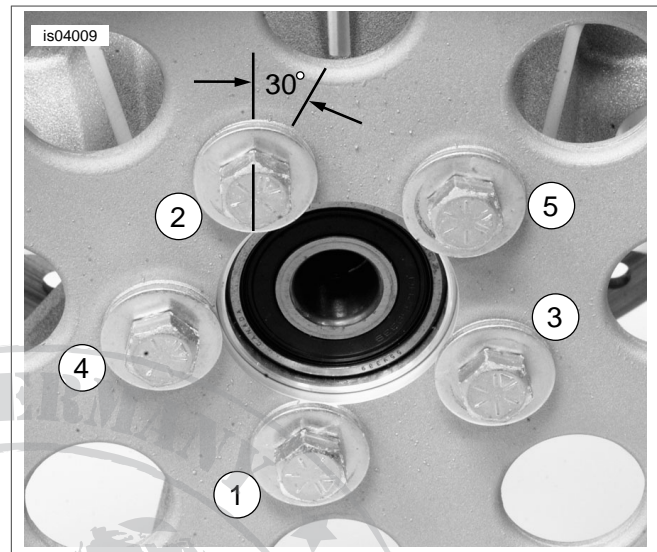

Figure 3. Tightening Sequence (Later Laced Wheels and All Cast Wheels)
4. See Figure 3. Tighten the bolts in the sequence shown to 23 ft-lbs (31.2 Nm).
7. Using the marks as a guide, and using the tightening sequence shown in Figure 3+, turn each screw an additional 1/12 turn or 30° clockwise.